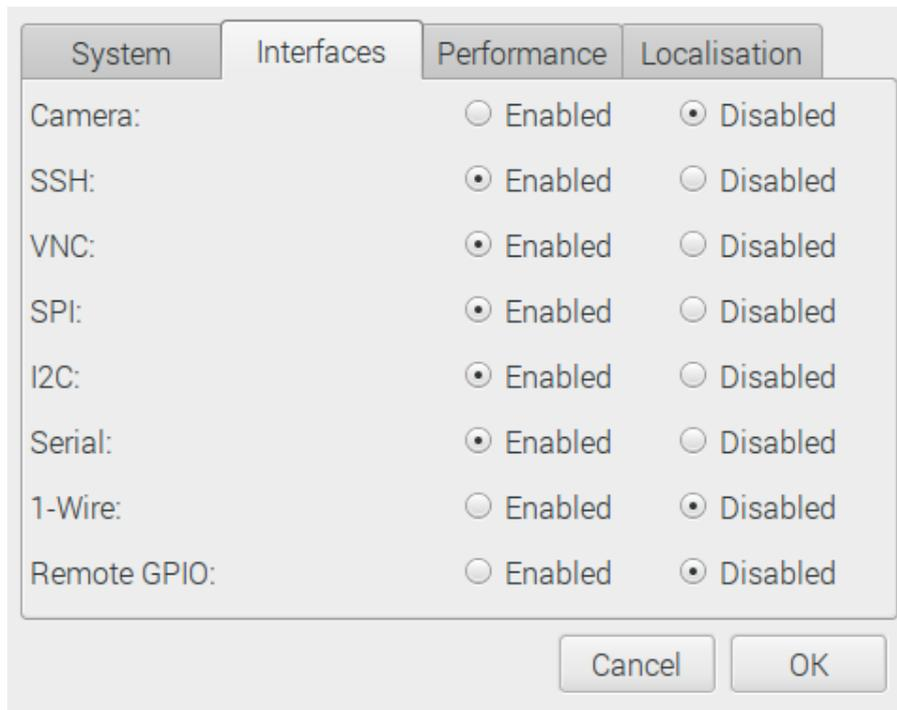

Figure 5: Raspberry Pi interface configuration
1. Next, the peripherals have to be enabled. To do so open the menu by clicking on the Raspberry symbol on the left upper corner of the screen and open the **Preferences** → **Raspberry Pi Configuration** window (see figure 5). Enable the SPI, I2C and SERIAL interface. The SPI and I2C are used for the sensors, the SERIAL interface (UART) drives the integrated RF-module.